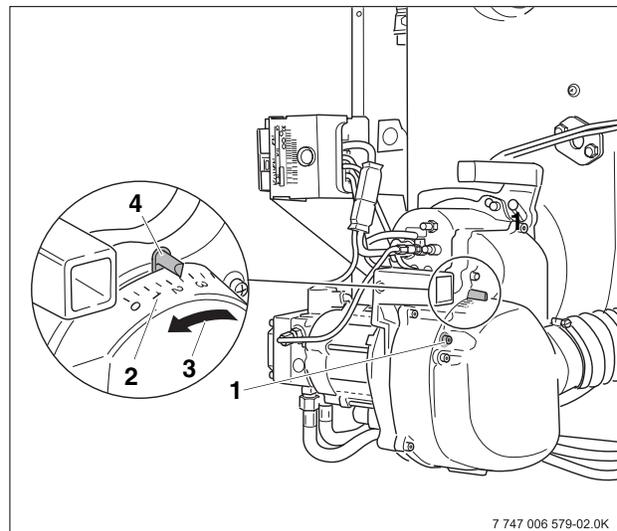

Fig. 17 Adjusting air volume
- Loosen the screw on the blower housing (Fig. 17, **Item 1**).
Lower numbers on the scale equal a higher air pressure as shown by the arrow in Fig. 17.